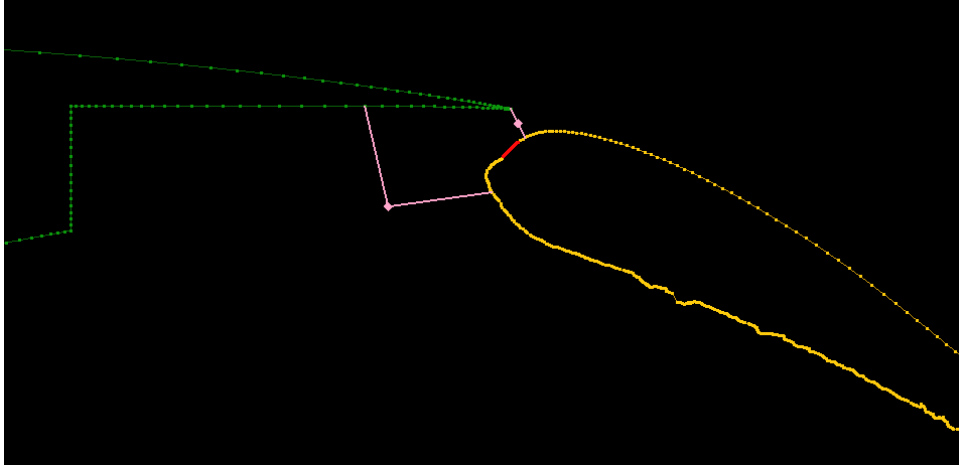

Figure 29. Link lines for link between flap and main elements. Only the lower link line is modified from its default position.
- The closest element to the left of the current object is found, and an initial link is created. The link is made up of two lines, an upper and a lower line. You will use the left mouse button to select and drag points of the link lines. Leave the upper line with the default point locations, but drag the endpoints of the lower line so it is between point index 175 on the flap and 576 on the main element. The information area of the main screen gives information about the endpoint locations. Drag the mid-point of the lower line so that it is located in the position shown in Figure 29.